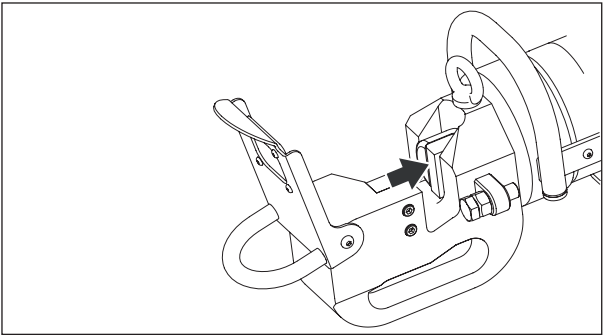

Figure 8, Piston and Blade in Home Position (fully retracted)
Always be sure that the piston and moving blade are in the fully retracted “home” position before placing any material inside the cutting head. See Figure 8.
2. Be sure that the piston is in the “home” (fully retracted) position. See Figure 8.
1. Start the pump. Move the piston to the “home” position (fully retracted). See Figure 8.